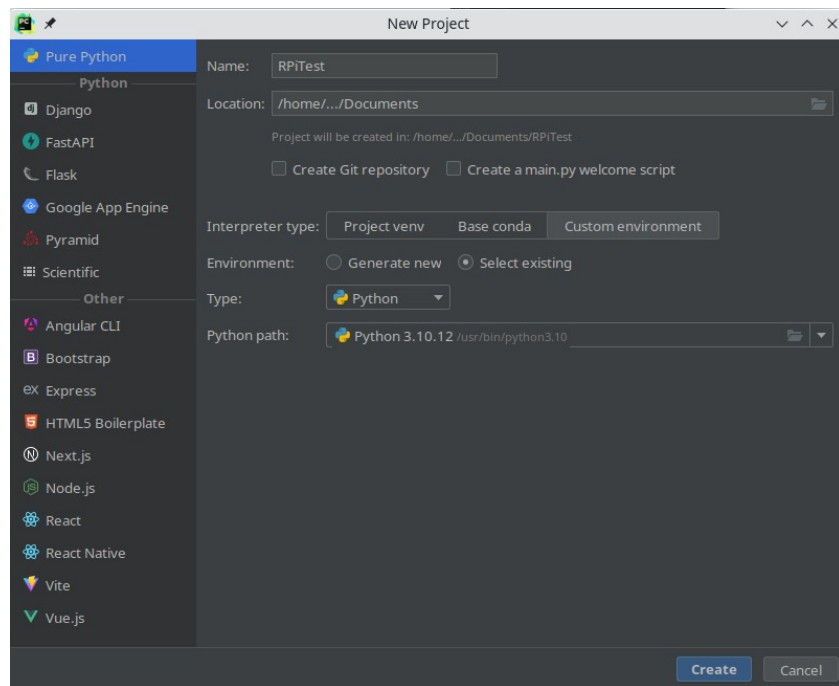

Figure 9: PyCharm New Project
3. Name your project "RPiTest", select **Custom environment** as the interpreter type and select **Select existing** for the environment. The type should be set to **Python** and the Python path to **any existing Python version** on your computer. This interpreter setting is only used to create the project. We'll change the interpreter to Python installed on the RPi in the one of the next steps. See Figure 9.